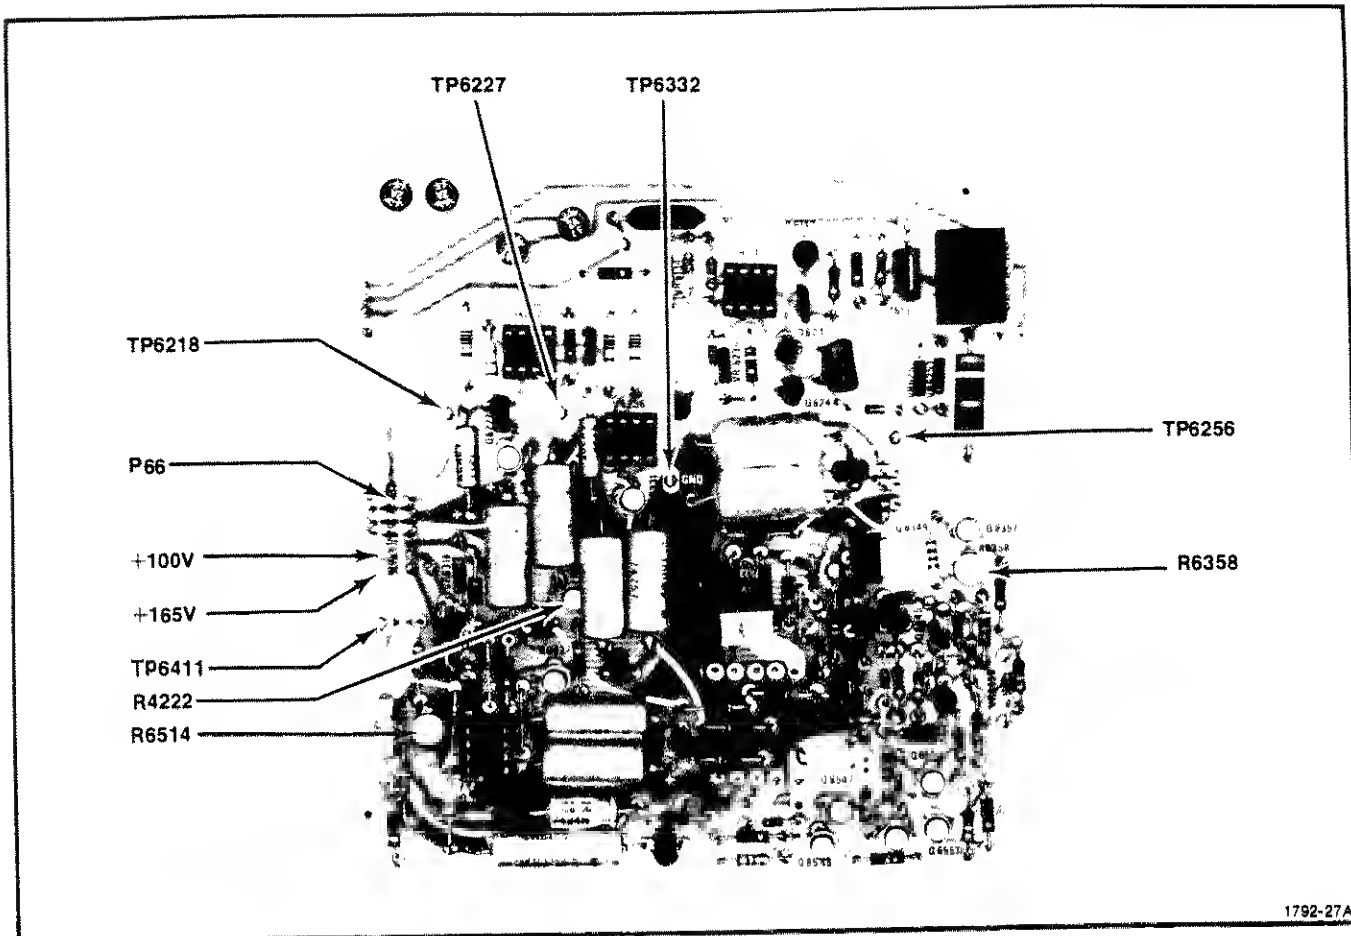

Fig. 4-1. Power Supply test points and adjustment location.
b. Connect the lead from the DM 501 HI terminal to TP6256, Fig. 4-1, (red test point).
s. ADJUST—R4222 (INTENSITY LIMIT) for maximum intensity without trace blooming. The adjustment is located on the HIGH VOLTAGE board and adjusted through the hole in the POWER SUPPLY board (See Fig. 4-1).
x. ADJUST—R4222 (INTENSITY LIMIT) for a voltmeter reading that is inside the range of 90 mV to 100 mV. The adjustment is located on the HIGH VOLTAGE board and adjusted through the hole in the POWER SUPPLY board (see Fig. 4-1). Check for maximum intensity without trace blooming.